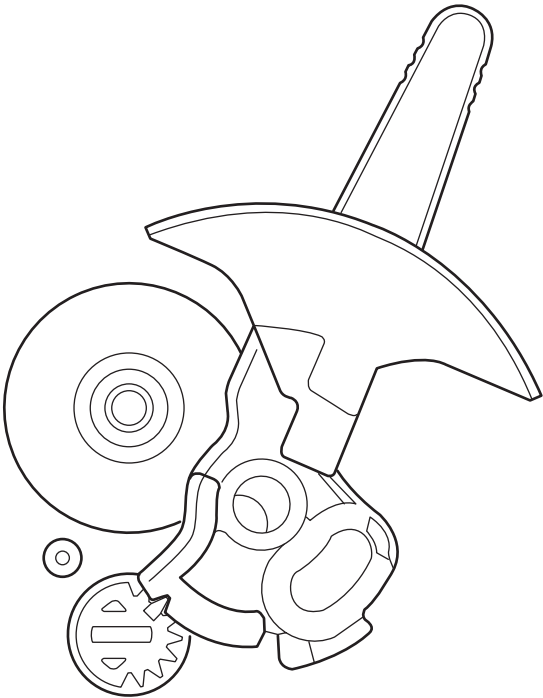

Figure 10
(5) Paper clamp mechanism (See Figure 10.)